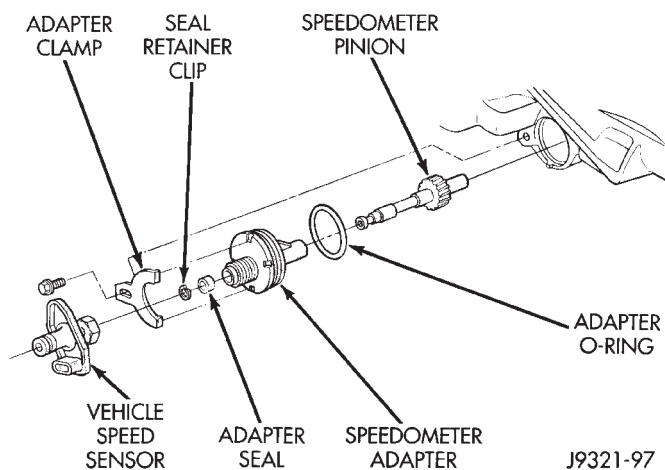

Fig. 9 Speedometer Components
- (1) Raise vehicle.
- (2) Disconnect vehicle speed sensor wires and disconnect speedometer cable, if equipped.
- (3) Remove vehicle speed sensor from speedometer adapter (Fig. 9).